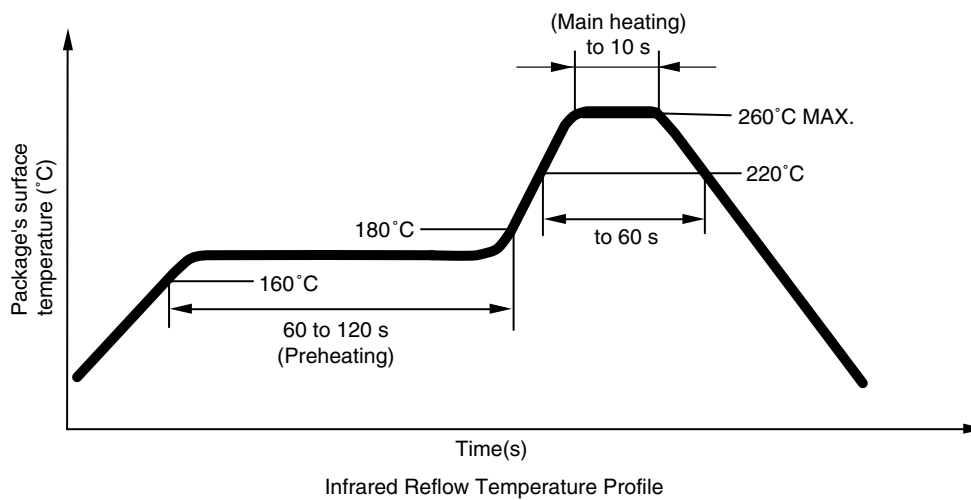

Figure 2 The example of the Mounting Pad (Unit : mm)
7. Please refer to Figure 2 as an example of the Mounting Pad. Optimize the land pattern in consideration of density, appearance of solder fillets, common difference, etc in an actual design.